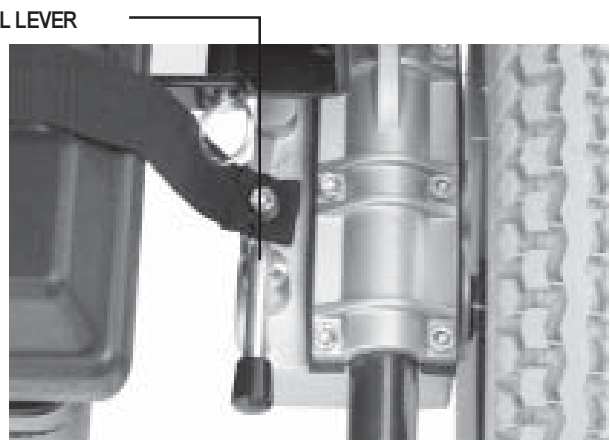

Figure 19. Drive Motors Engaged (Drive Mode)
3. Rotate the manual freewheel levers rearward to engage the drive wheels. See figure 19.
7. Place the Pride LX into drive mode. See figure 19.